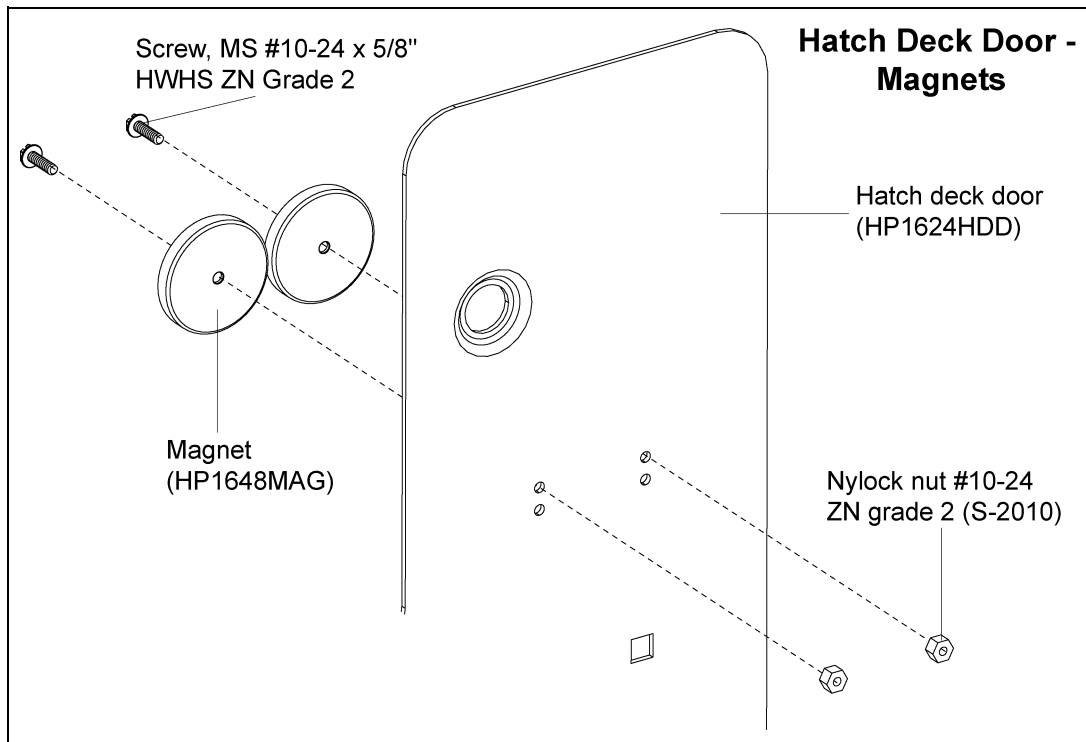

Figure 9C
4. Slide two (2) magnets (16-0092) onto each MS #6 x 3/4" FHS flat head screw (S-7166). Position the magnet so the screw head is countersunk into the magnet. (See Figure 9C.)